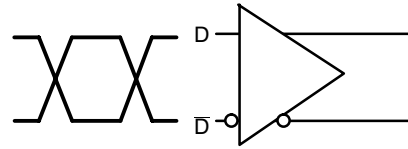

Figure 11. Differential Inputs Driven Differentially
**DIFFERENTIAL INPUTS DRIVEN DIFFERENTIALLY** (Figures 11, 13) (Note 15)
**DIFFERENTIAL INPUTS DRIVEN DIFFERENTIALLY** (Figures 11, 13) (Note 22)